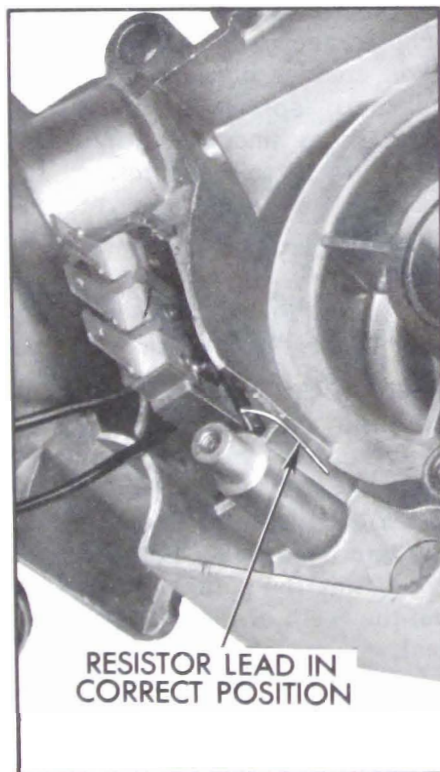

Figure 10-124—Installing Terminal Board
2. Slide terminal board into wiper housing being careful to position the terminal board resistor lead as shown in Figure 10-124.